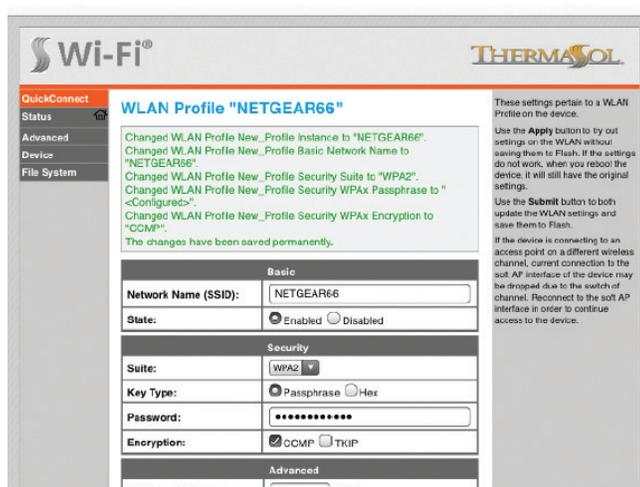

Figure 10: Successful local WLAN Wi-Fi access point connection
7. Once connection is complete, the configuration web page will reflect the changes as shown below in Figure 10, and the WLAN LINK indicator light on the front of the SWM-2 will become lit green